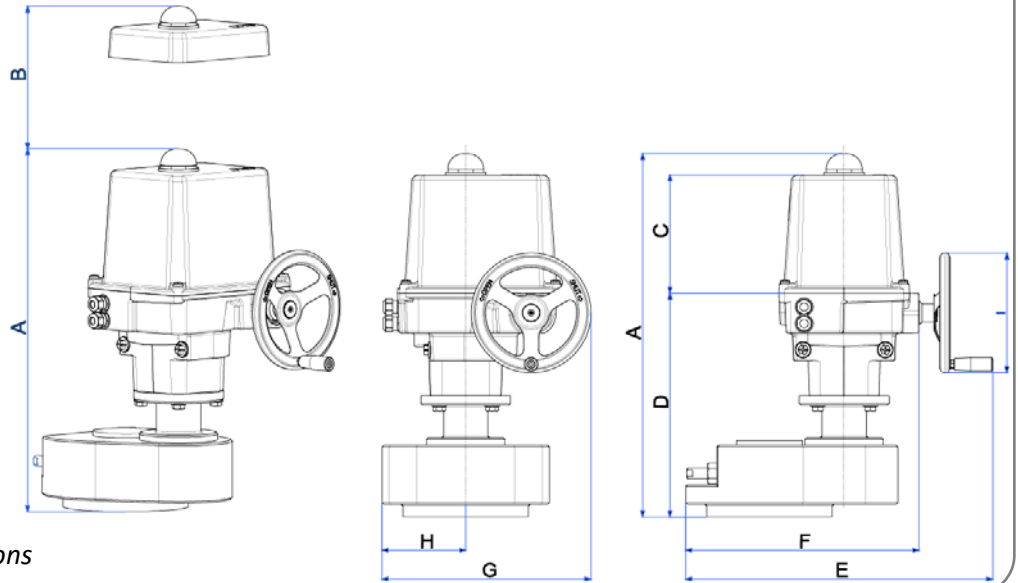

Figure 1: Installation dimensions
- When installing the actuators, leave enough space to permit cover removal (Figure 1: Installation dimensions).